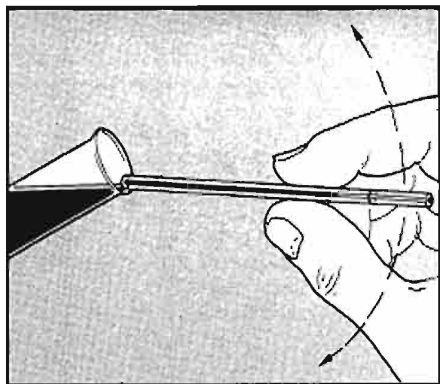

Figure 10. Transferring Blood Specimen from VACUTAINER Tube to PRE-CAL Tube. Rate Can be Controlled by Tilting Tube.
- THE TUBE MUST BE FILLED EXACTLY TO THE CALIBRATION MARK. The rate of filling may be accelerated by lowering the end near the calibration mark below the horizontal. When tilting, be careful not to spill blood from the VACUTAINER Brand Blood Collection Tube. The rate may be retarded, stopped or reversed by tilting the same end above the horizontal as shown in Figure 10.